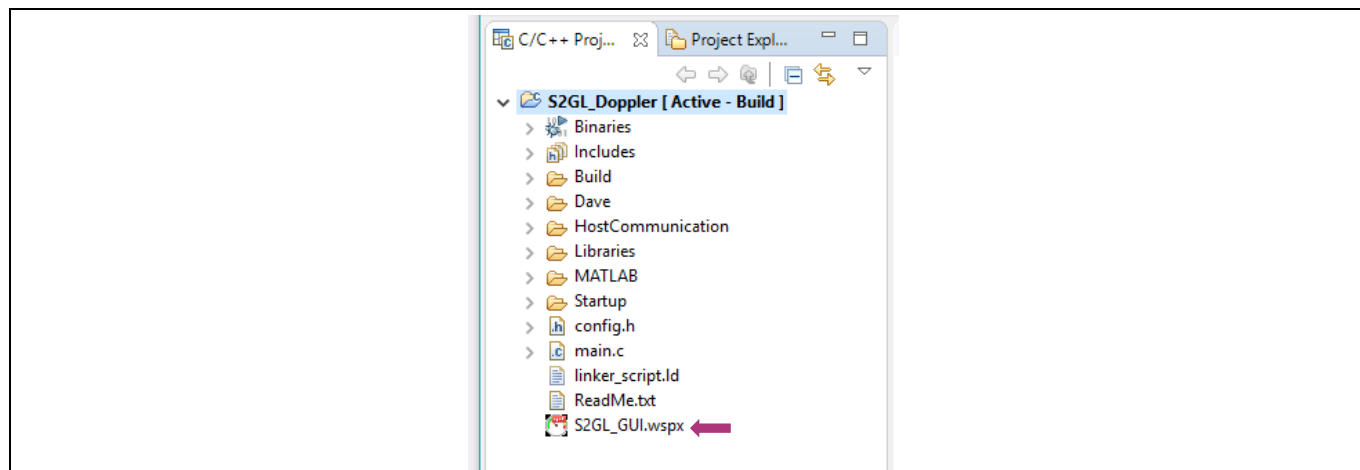

Figure 19 Open Sense2GoL Micrium GUI project
- **S2GL_GUI.wspcx** can be opened in Windows Explorer, or in S2GL_Doppler DAVE™ project explorer, as shown in Figure 19.